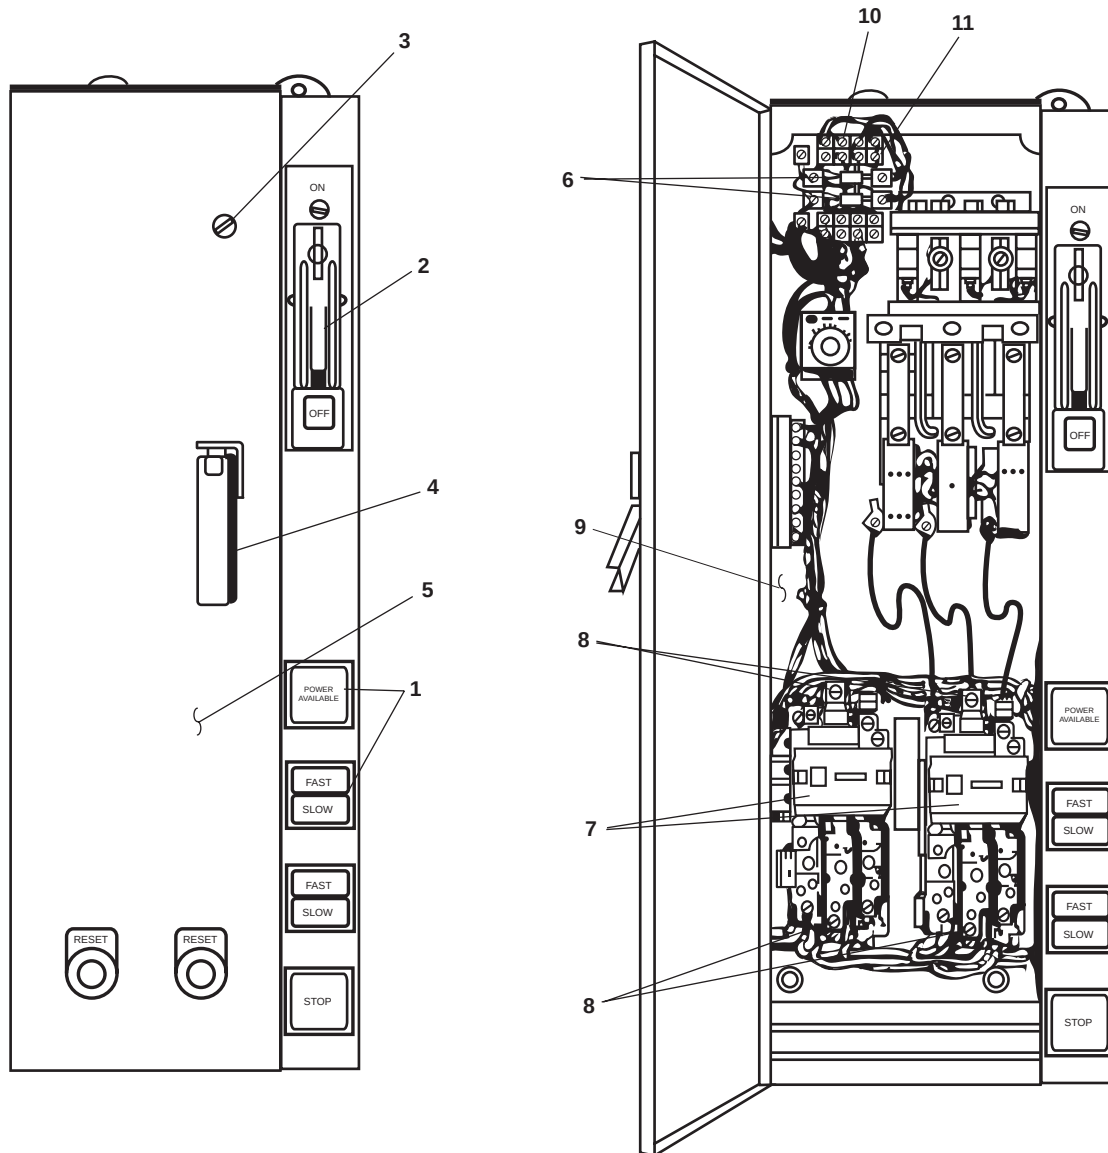

Figure 1. Motor Controller Type 2 (Typical)
1. Remove the lens cover (figure 1, item 1).
1. Install the lamps and lens covers (figure 1, item 1).
1. Set the switch handle (figure 1, item 2) to OFF.
2. Loosen the motor controller door screw (figure 1, item 3).
3. Turn the handle (figure 1, item 4) and open the door (figure 1, item 5).
2. Use a multimeter to check for voltage at the fuses (figure 1, item 6). If voltage is present, ensure that the proper circuit breakers have been set to OFF, locked out, and tagged out (FM 55-502). If no voltage is present, continue with the procedure.
3. Remove the cartridge fuse(s) (figure 1, item 6) with a fuse puller.
1. Install the cartridge fuse(s) (figure 1, item 6) with a fuse puller.